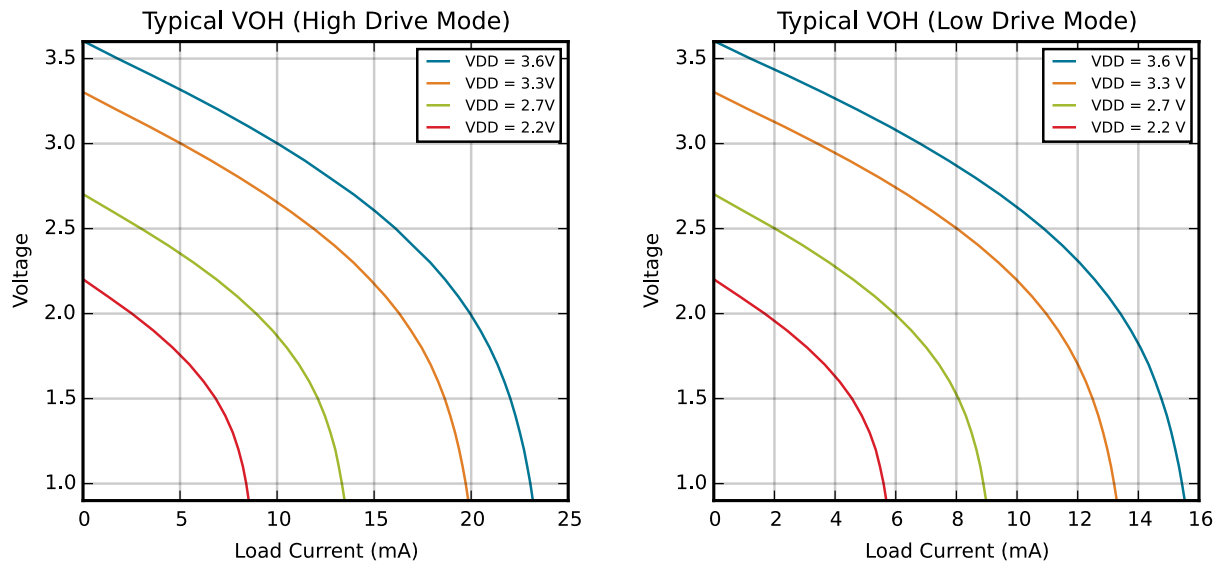
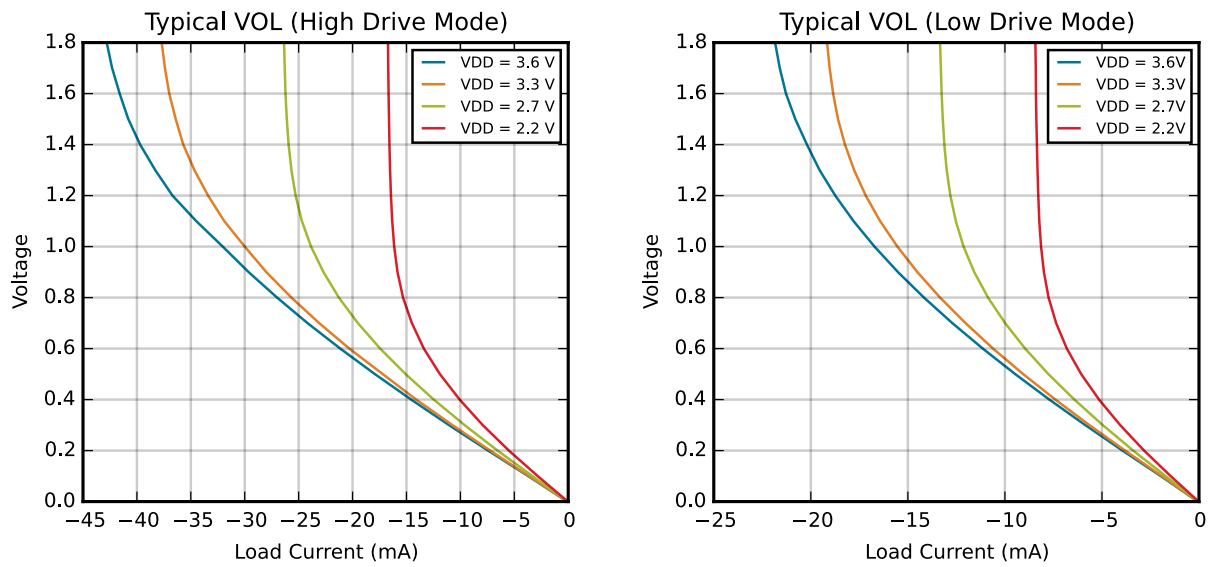

Figure 4.6. Typical V_{OH} Curves
Figure 4.7. Typical V_{OL} Curves
1. See Figure 4.6 Typical V_{OH} Curves on page 30 and Figure 4.7 Typical V_{OL} Curves on page 30 for more information.